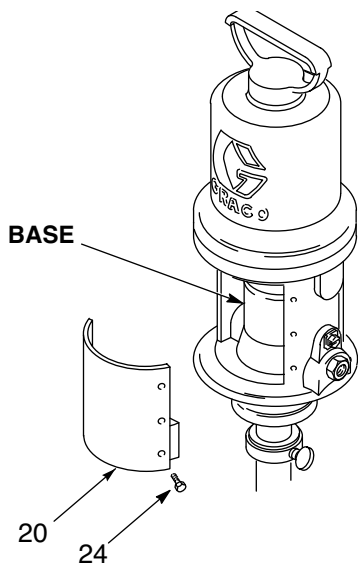

FIG. 12
2. Remove the six screws (24) using a 1/4 in. nut driver. Remove the muffler plate. (FIG. 12)
5. Replace the muffler cover and the six screws (24). (FIG. 12)